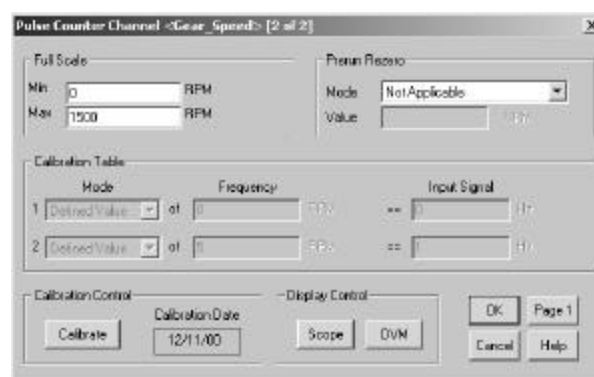

Figure 7-15: Pulse Counter Channel Definition Dialog Box (Page 2)
3. Select the Page 2 button (bottom-right corner of dialog box) to continue the definition process. Page 2 of the Pulse Counter Channel definition dialog box appears. **Figure 7-15** shows that dialog box page with sample data in it. Normally all the boxes will be blank or have “0” in them when you are adding a channel.